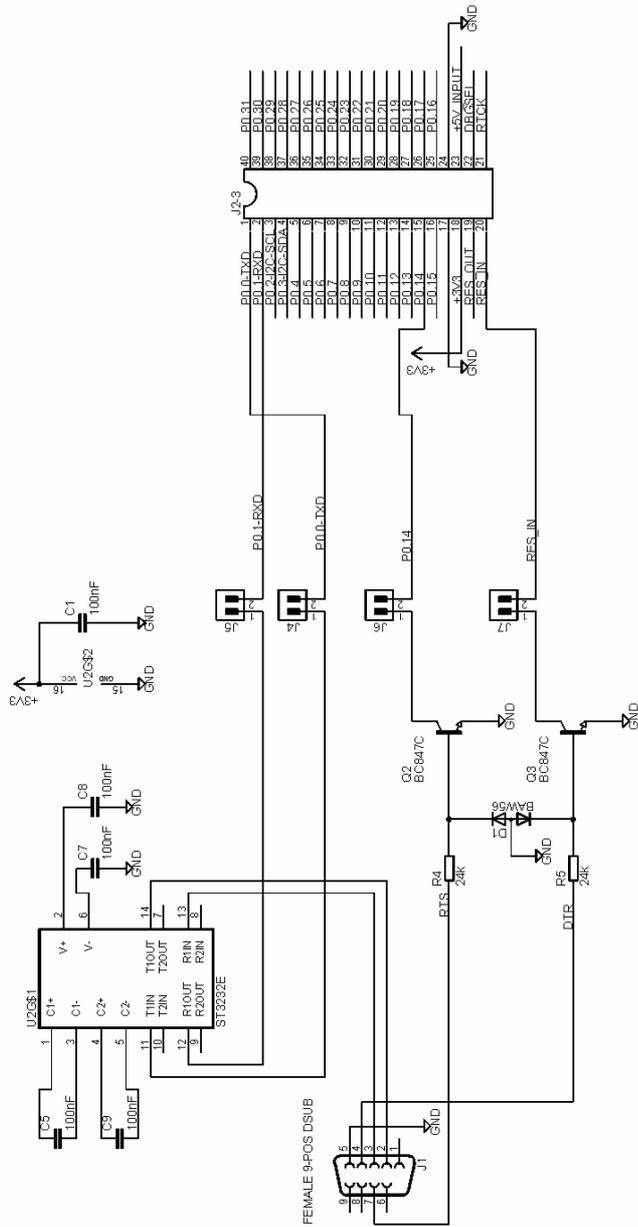

Figure 4 – Example ISP (serial, RS232) Interface
The LPC2106 microcontroller contains ISP functionality that allows you to easily download a program via the serial channel (UART #0, pin P0.0 and P0.1). The circuit in *Figure 4* below illustrates a simple RS232 interface. It also contains automatic bootloader activation functionality, by controlling the state of pin P0.14 and the reset signal. Pin P0.14 is sampled by the microcontroller after reset and determines if the internal bootloader program shall be started, or not. A low signal after reset enters the bootloader mode. The RS232 signal RTS is connected to pin P0.14 and the RS232 signal DTR controls the reset signal to the LPC2106. Philips FLASH Utility program (for ISP) supports automatic bootloader activation.
The test program outputs a running-zero to port pins P0.2 – P0.31, meaning that one LED at a time will light (in a running-one pattern). Also, a terminal program can be attached to the serial channel (UART #0), assuming a circuit like the one in *Figure 4*. The UART/RS232 channel can be tested by typing characters in the terminal program.
- The LPC2106 microcontroller provides on-chip bootloader software that allows programming of the internal flash memory over the serial channel. The bootloader is activated by pulling port pin P0.14 low during reset of the microcontroller. The circuit in *Figure 4* can be used to implement automatic control of the bootloader.